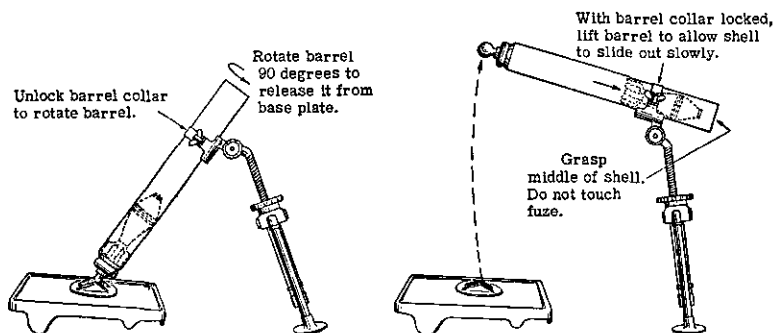

Figure 95.—Unloading Model 99 (1939) 81-mm mortar.
Before proceeding further, first determine if the shell has become lodged in the barrel, somewhere short of the firing pin. By striking the side of the barrel in several places with a timber, the shell may be dislodged. If, however, this fails, then proceed to unload (fig. 95).
(4) *To unload*.—If there is a misfire, wait at least 1 minute before attempting to unload the weapon. Then try to find whether the shell has become lodged in the barrel somewhere short of the firing pin. Use a piece of timber, and strike the barrel at several places. If that fails, proceed to unload. (See fig. 95, p. 156, for the method of unloading.)